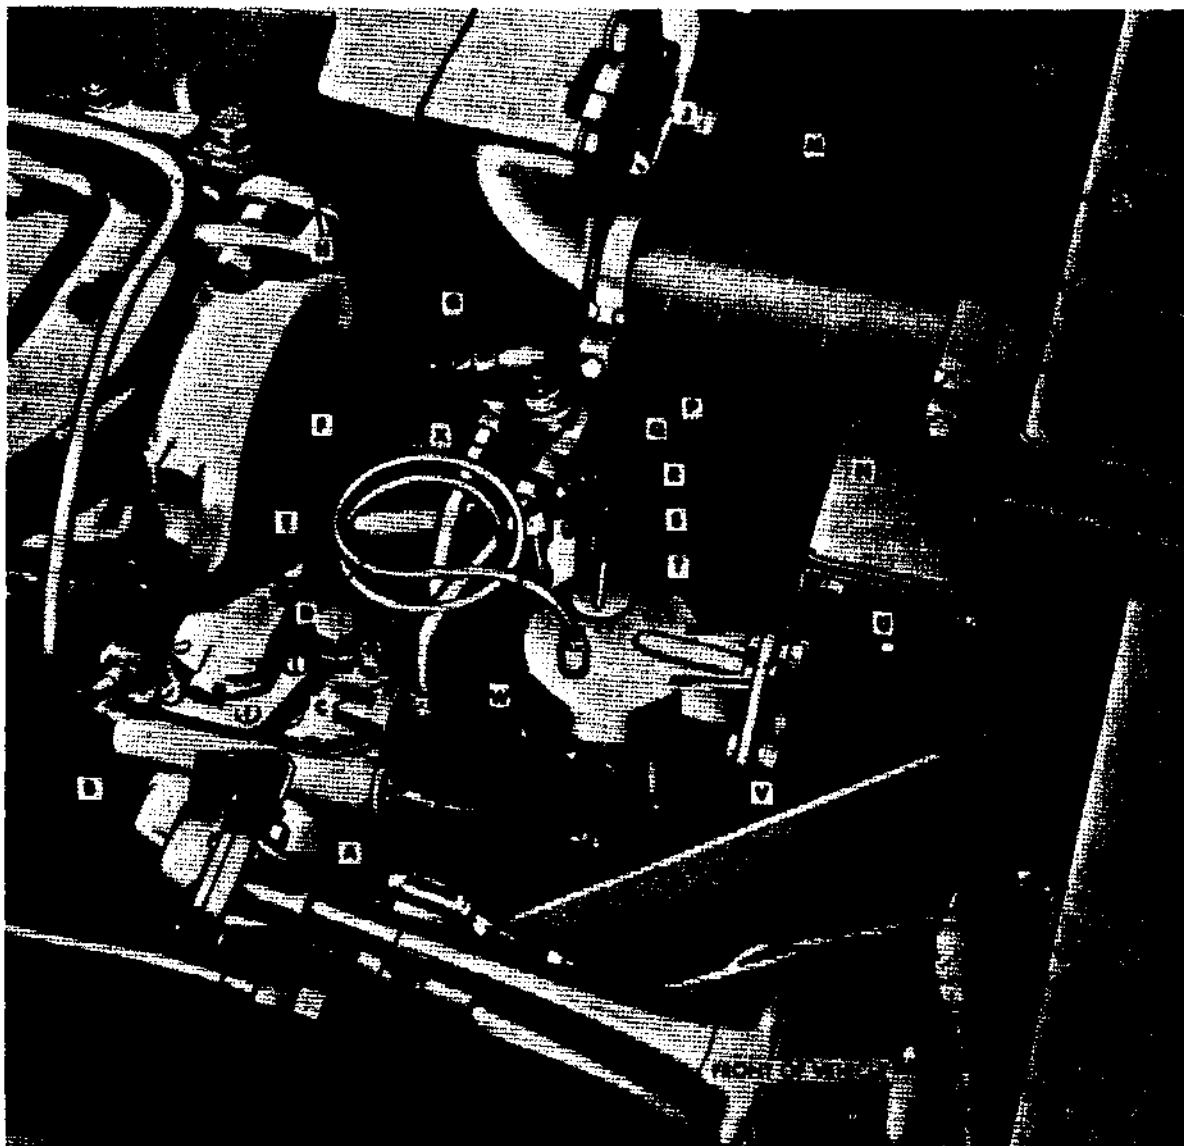

Figure 641. Engine thermostat housing, front heater aquastat, and alcohol evaporator installed
- (b) Attach the electrical connector on the other end of the aquastat wire to the top of the aquastat (fig. 641).